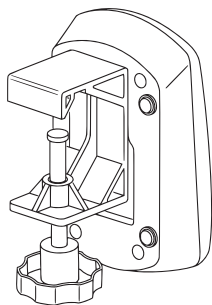
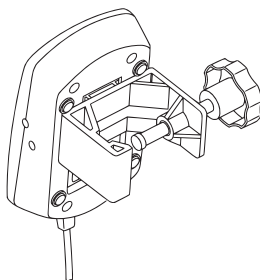

Figure 11: Control module and universal mounting bracket (Vertical)
Figure 12: Control module and universal mounting bracket (Horizontal)
3. Use the universal mounting bracket to attach the control module to an IV pole or bed rail in either a vertical or horizontal orientation (Figure 11 and Figure 12). Do not over-tighten knob.